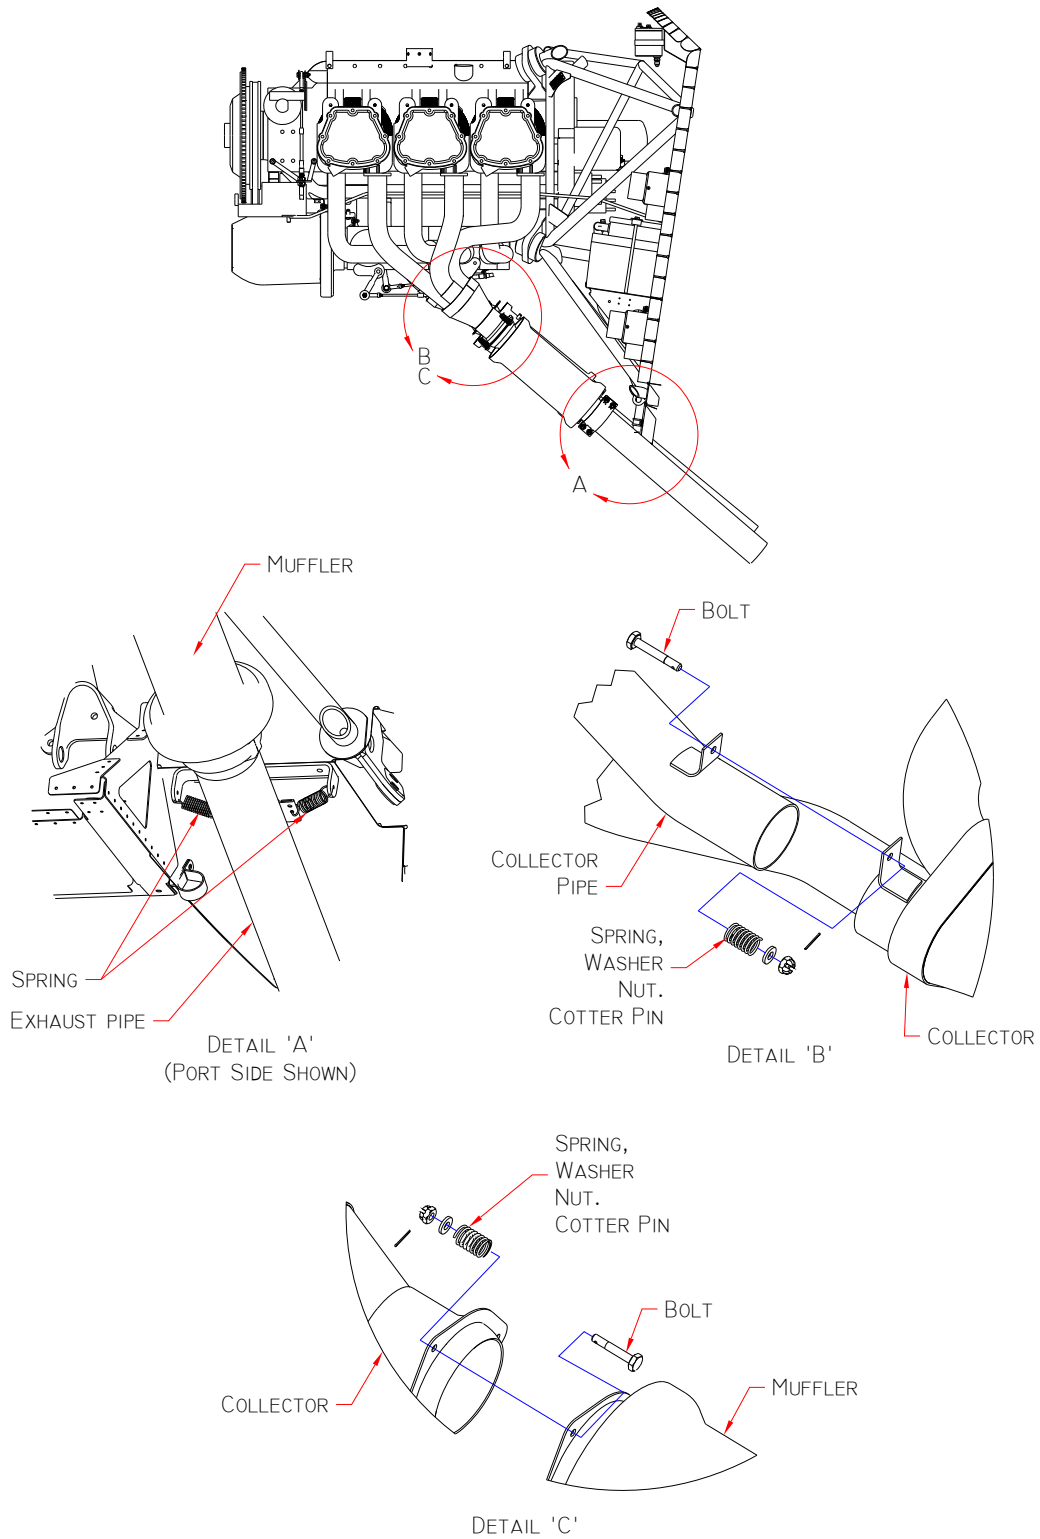

Figure 78-10-01 2C3 & 2C4 Collector Installation
Refer to Figure 78-10-01
- Step 4. Disconnect the springs securing the exhaust pipe at the fire wall – see Figure 78-10-01 Detail A.
- Step 8. Remove hardware securing collector to collector pipe (1 place) – see Figure 78-10-01 Detail B. Cotter pin is scrap and must be replaced on installation.
- Step 2. Install the hardware securing the collector pipe to the collector (1 place) – see Figure 78-10-01 Detail B. Torque the nut far enough to install cotter pin. Note that only one pipe is attached to the collector with hardware.
- Step 6. Attach springs located at the fire wall to the exhaust pipe – see Figure 78-10-01 Detail A.
- Step 4. Ensure alignment of the exhaust pipe per Figure 78-10-01 Detail A.